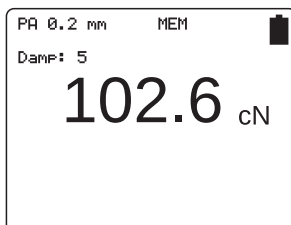

fig. 3.7b
- By pressing the  button the storage takes place (The display shows „MEM“, fig. 3.7b) and the measurement is continued while by pressing the  button the measurement is continued without saving.